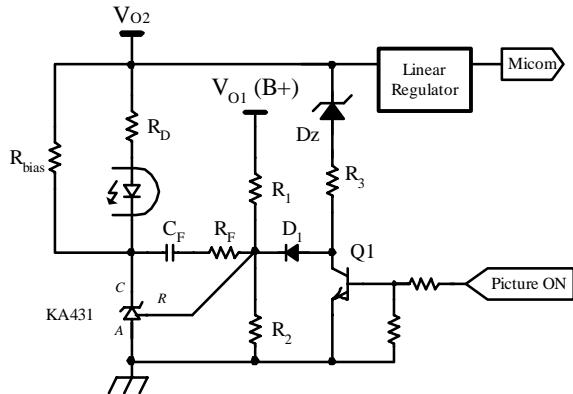

Figure 15. Typical Feedback Circuit to Drop Output Voltage in Standby Mode
6. Burst Operation : In order to minimize the power consumption in the standby mode, the FSCQ-Series employs burst operation. Once FSCQ-Series enters into the burst mode, FSCQ-Series allows all output voltages and effective switching frequency to be reduced. Figure 15 shows the typical feedback circuit for C-TV applications. In normal operation, the picture on signal is applied and the transistor Q1 is turned on, which de-couples R₃, D_z and D₁ from the feedback network. Therefore, only V_{O1} is regulated by the feedback circuit in normal operation and determined by R₁ and R₂ as